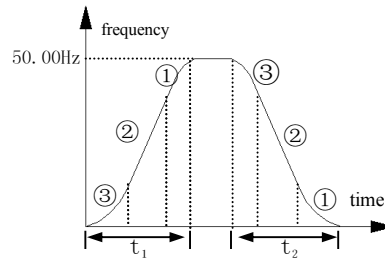

Fig. 7-2 S curve acc/dece
1:S curve acc/dece mode.output frequency raise or decline as the S curve: as fig.7-2.
S curve start interval time as fig.7-2③, output frequency changed slope increase slowly from zero.
S curve up interval time as fig.7-2②, output frequency changed slope is constant.
S curve end interval time as fig.7-2①, output frequency changed slope decrease slowly to zero.